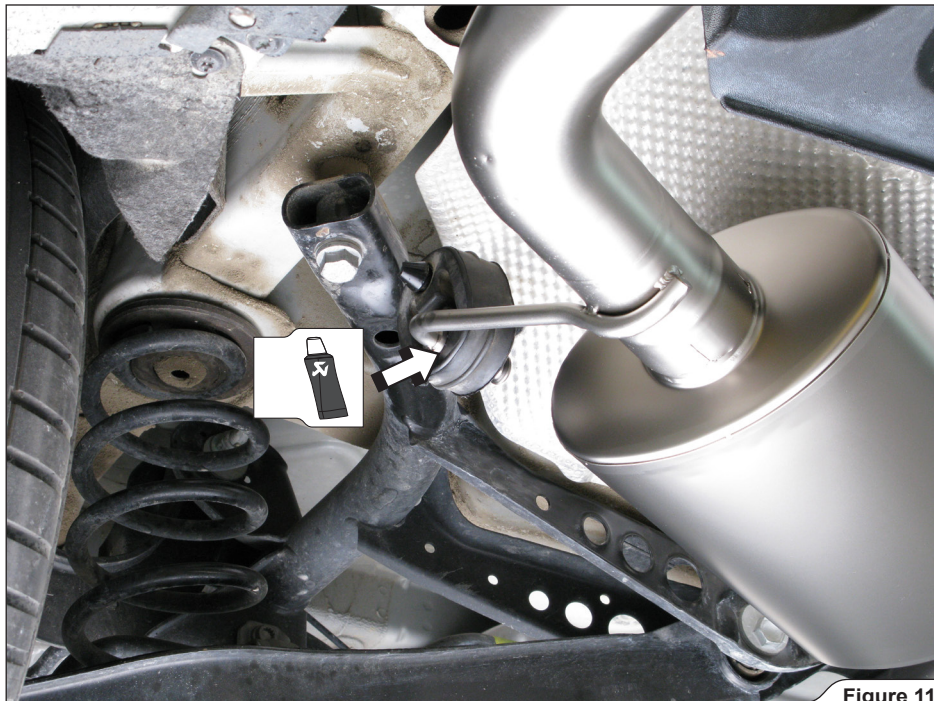

Figure 11
4. For Slip-On and optional Link-Pipe: hang the muffler on stock rubber bracket, as shown (Figure 11).